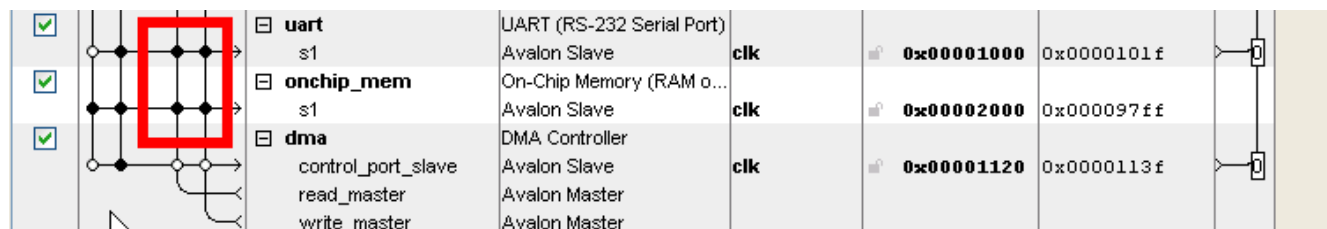

Figure 1-36: DMA transfers are enabled between memories and UART
4. As the requirement here in this example, make 4 dots solid (2 for on-chip memory, for reading and writing, 2 for the SDRAM for reading and writing as well) by clicking the dots, as shown in Figure 1-36.